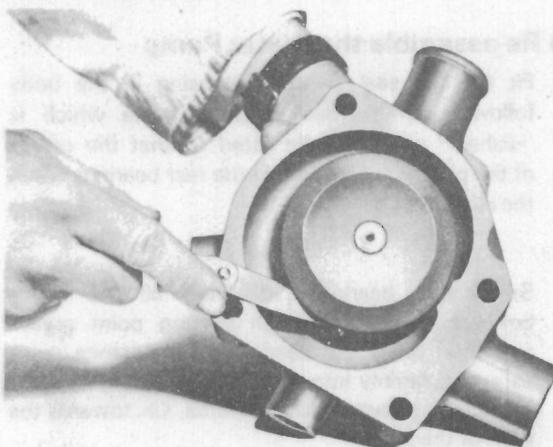

Fig. M.4.
7. Press the impeller on to the shaft until the clearance between the blades and the body is 0.015/0.025 in (0,38/0,64 mm). With low position pumps this clearance between the front of the impeller can be checked with a feeler gauge as shown in Fig. M.4. With high position pumps the impeller should be pressed on until the rear face of the impeller is 0.551/0.556 in (14,00/14,12 mm) below the rear face of the water pump.